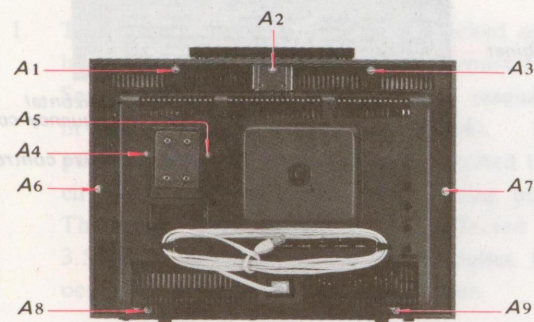

Fig. 2-1. Rear cover removal, Step 2
2. Remove the nine screws labeled A1-9 in Fig. 2-1.